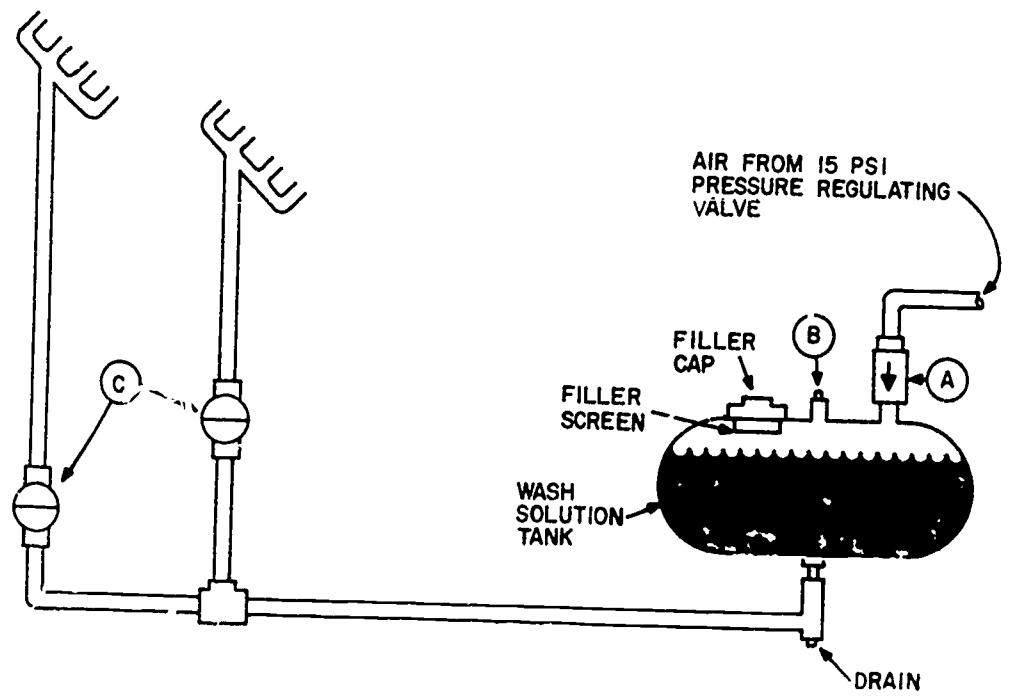

Figure 4.
Look at figure 4. The wash solution is stored in a one gallon tank. To force the solution to the windshield wash nozzles, pressure is applied to the top of the solution in the tank. Air for head pressure is taken downstream of the service air-to-air heat exchanger. This air is regulated to 15 psi by a pressure regulating valve. The air goes through a check valve (A) and to the wash solution tank. A 20 psi safety relief valve (B) will keep pressure from building up too high, should the pressure regulator fail. The washing action is caused by selecting L, R, or BOTH on the windshield selector switch. The rain removal switch must also be placed in the wash position. When this happens, 28V DC is sent to the windshield wash shutoff valves (C) and the rain removal shutoff valves that will cause them to open. Once either or both of the windshield wash valves are open, the head pressure forces the wash solution through tubing to the nozzles. The 45 psi used for rain removal will then force the wash solution on the windshields for cleaning. When the rain removal switch is put to WASH, a time delay relay is energized. This timer allows the windshield wash system to operate for 5 seconds. If the pilot wants more cleaning, the rain removal switch must again be put to the WASH position.